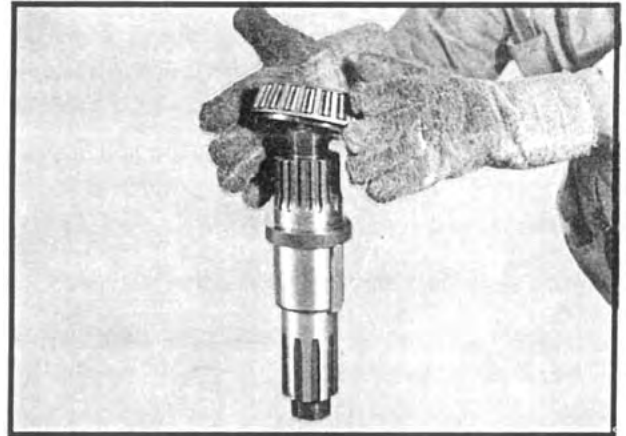

Fig 42
- Heat and install the bearing cone assembly on the end of the shaft closest to the shoulder. See Figure 42.